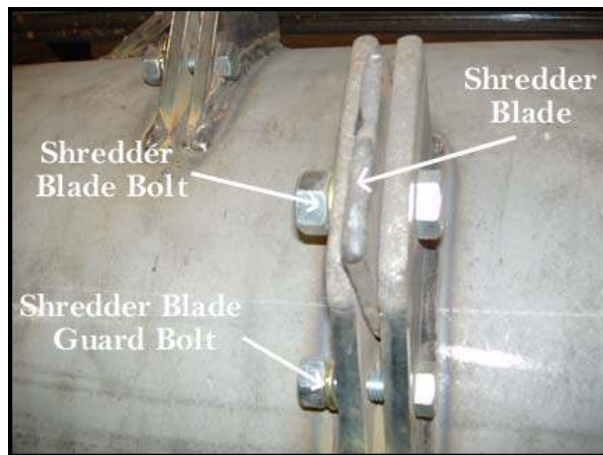

Figure 2 – Shredder Rotor Assembly Showing Blade Position
- All blades (Figure 2) on each rotor assembly should be replaced or rotated at the same time using dealer authorized parts. Reference Cooper Equipment Part Number SHR4X4-V for replacement blades. All replacement blade bolts must be grade 8 bolts, 3/4 inch in diameter and 2-1/4 inches in length. Bolts, nuts, and lock washers must be tightened to 165 foot-pounds of torque.